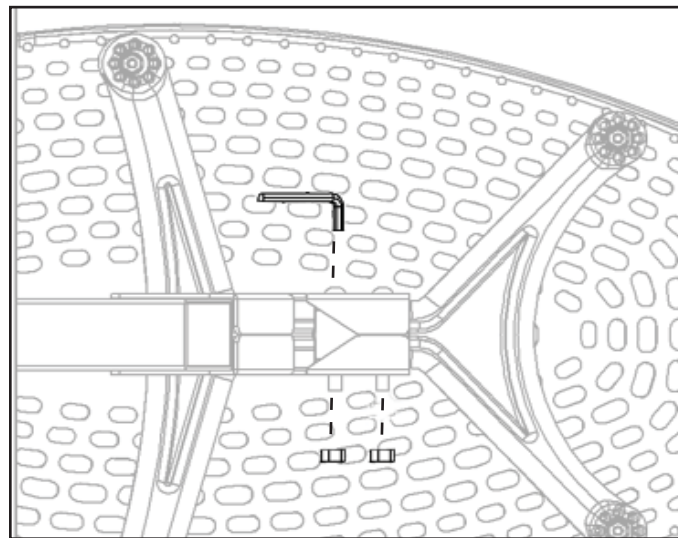

Figure 4
- Use the Allen Wrench (IA-1149) to steady the bolts, tighten the nut onto the bolt with the larger wrench (F5-1088) (Figure 4). Repeat with the second bolt.